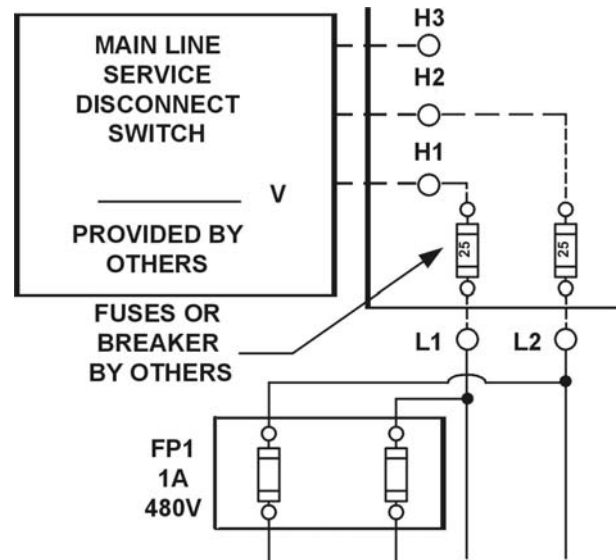

Figure 1-6
- The fourth circuit will only be required if a power transformer is used. A separate fused circuit from the primary side of the power transformer terminals H1 and H2 to the FP1 fuse block on the drive side of the controller. [See Figure 1-6.]